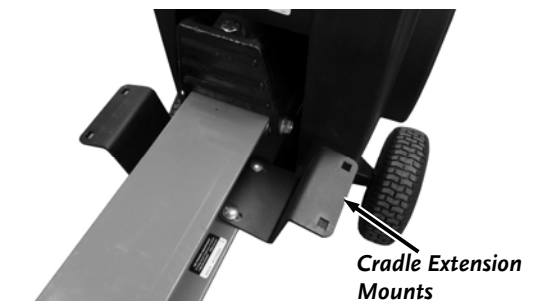

Figure 4
3. Install the Cradle Extension Mounts using four 3/8-16 X 1.25" Flange Bolts and 3/8-16 Flanged Locknuts by hand but do not tighten (**Figure 4**).